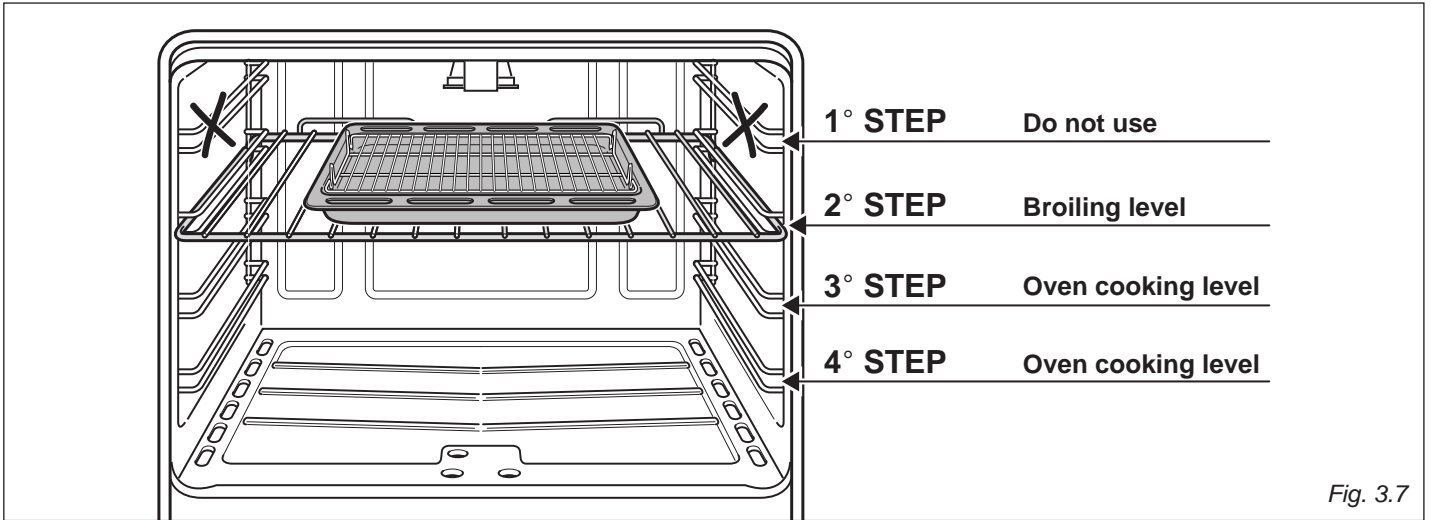
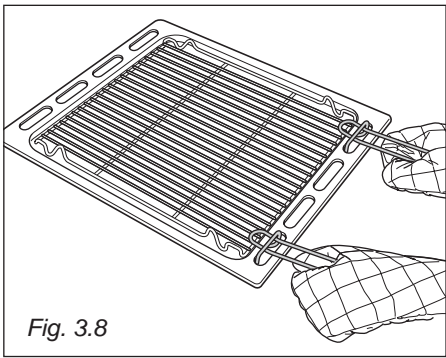

Fig. 3.7
Fig. 3.8
- Position the shelf on the second level from the top (fig. 3.7).
- Introduce the grill-pan (tray + grid) in the oven (fig. 3.8). The grill-pan should be placed above the shelf and it should be centered with the broil burner (fig. 3.7).
Important: Use always special handles supplied with the appliance to insert/remove the grill-pan from the oven (figs. 3.8, 3.9, 3.10, 3.11, 3.12, 3.13).